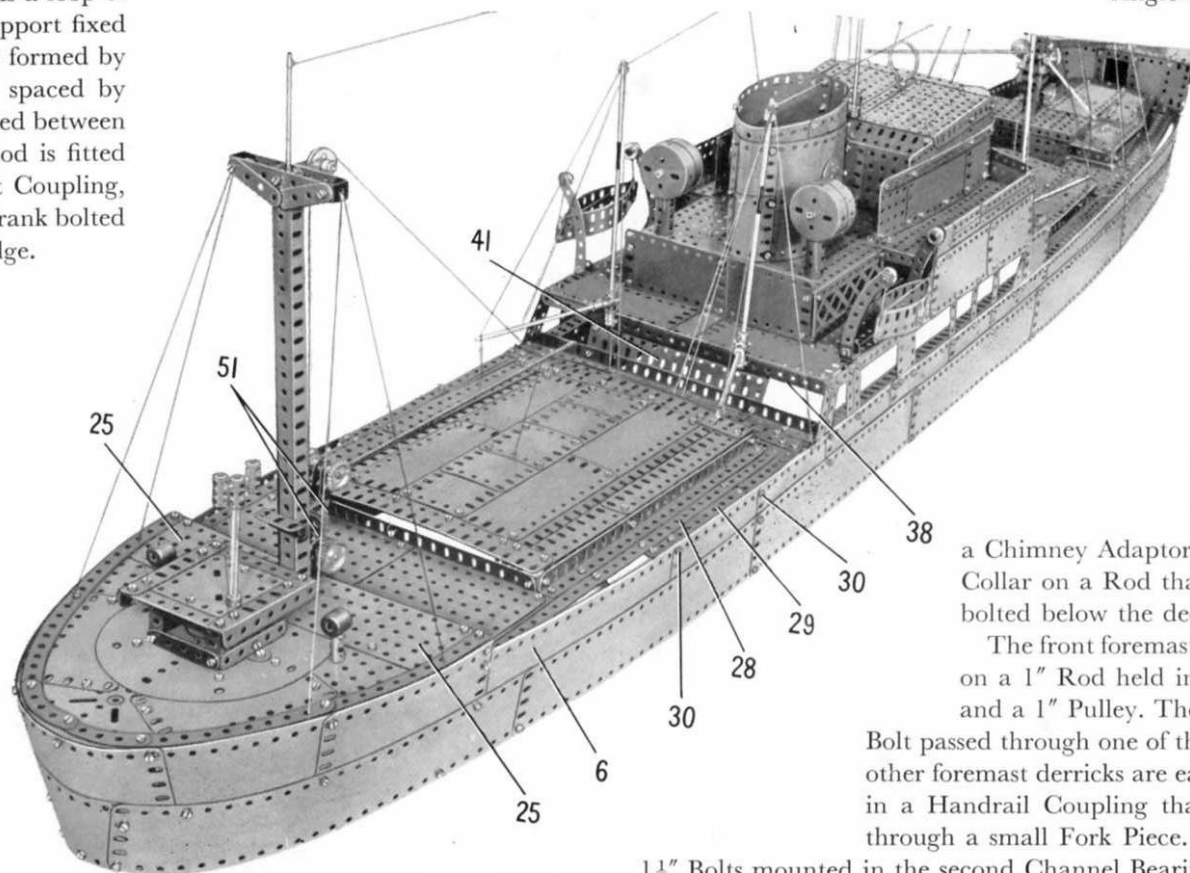

FIG. 7 A stern view of the Cargo Ship showing the aft mast and details of the superstructure
The Strip Plates at the stern are curved, and are connected by a $3\frac{1}{2}'' \times 2\frac{1}{2}''$ Flexible Plate, whose lower edge is strengthened on the inside by a Formed Slotted Strip. The stern Plates are extended upward by a $12\frac{1}{2}'' \times 2\frac{1}{2}''$ Strip Plate (6) (Fig. 7) and two $5\frac{1}{2}'' \times 2\frac{1}{2}''$ Flexible Plates on each side, and a further $5\frac{1}{2}'' \times 2\frac{1}{2}''$ Flexible Plate is bolted in position above the $3\frac{1}{2}'' \times 2\frac{1}{2}''$ Flexible Plate.
The deck at the stern consists of two $5\frac{1}{2}$ " \times $2\frac{1}{2}$ " Flat Plates (25) (Fig. 7), a 6" Circular Plate and a 4" Circular Plate bolted to a $9\frac{1}{2}$ " Strip (26) (Fig. 4). A $3\frac{1}{2}$ " \times $2\frac{1}{2}$ " Flanged Plate and a $4\frac{1}{2}$ " \times $2\frac{1}{2}$ " Flexible Plate are fixed at each side, and the deck is edged by Curved Strips as shown. The rear end of Strip (26) is connected to the stern by an Angle Bracket,
Girder (27) by Fishplates. A strip (29) on each side, made from a $5\frac{1}{2}$ " and a $4\frac{1}{2}$ " Strip, is bolted to a $5\frac{1}{2}$ " Angle Girder that is fixed to the side of the hull by bolts (30) (Fig. 7).
The aft mast (Fig. 7), is generally similar to the foremast, but varies in slight details that can be seen in the illustration. Two Trunnions (51) and a $1\frac{1}{2}"$ Angle Girder are bolted to the mast.